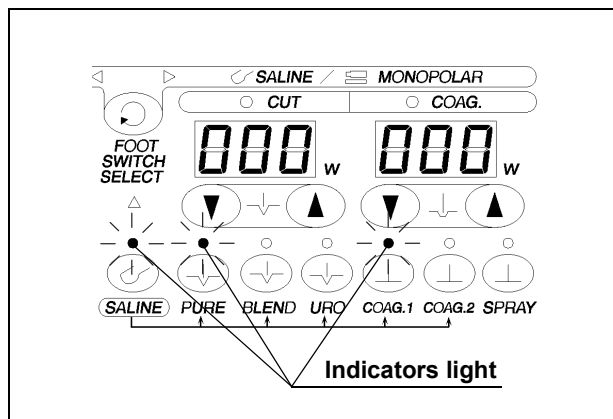

Figure 4.6
1. Connect the saline cord to the saline connector. This should cause the saline mode indicator to light (see Figure 4.6).